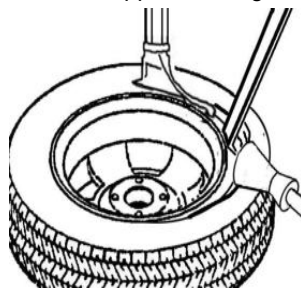

Fig.7
- Lift up the assist arm control valve (R) to depress the press roller and release the locking nod and move the bar to the home position.
- With the crowbar inserted between the bead and the front section of the mounting head, move the tire bead over the mounting head.(Fig.7)